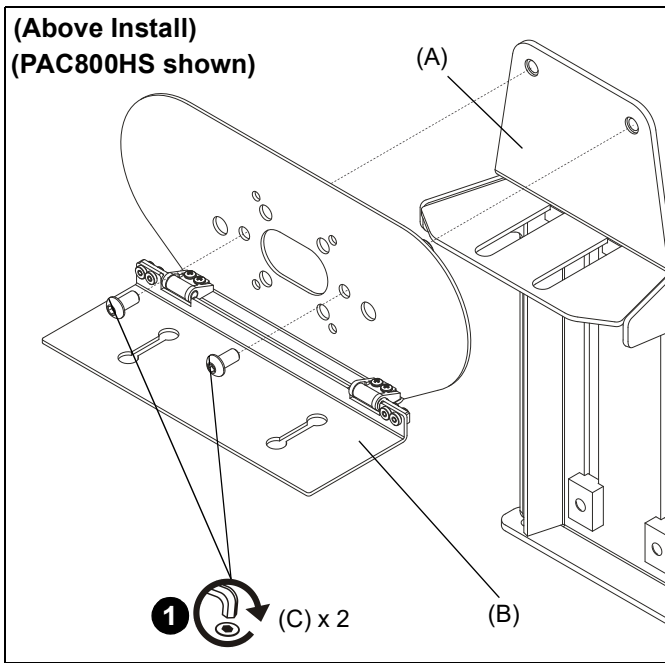
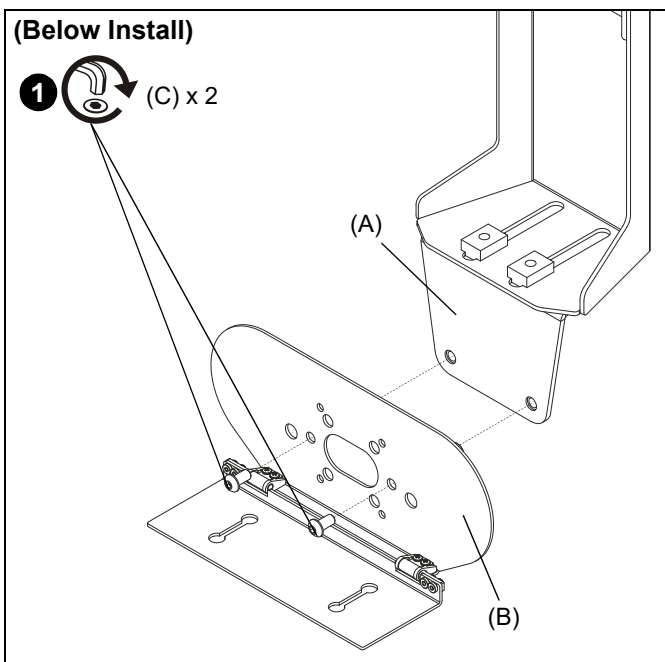

Figure 1
Figure 2
1. Attach shelf (B) to main bracket (A) using two 1/4-20 x 1/2" button head machine screws (C). (See Figure 1) and (See Figure 2)